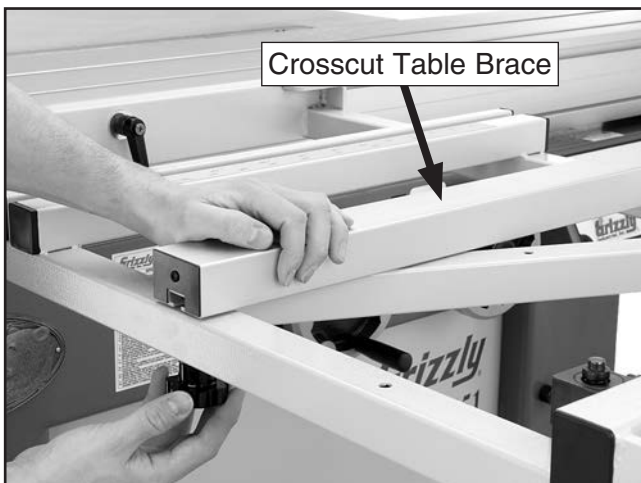

Figure 45. Example of table brace attached to crosscut table.
37. Slide (2) M8-1.25 T-nuts into crosscut table brace T-slots, and align them with center holes in crosscut table (see **Figure 45**).
38. Secure table brace by threading (2) M8-1.25 x 50 knob bolts with (2) 8mm flat washers into brace T-nuts (see **Figure 45**).